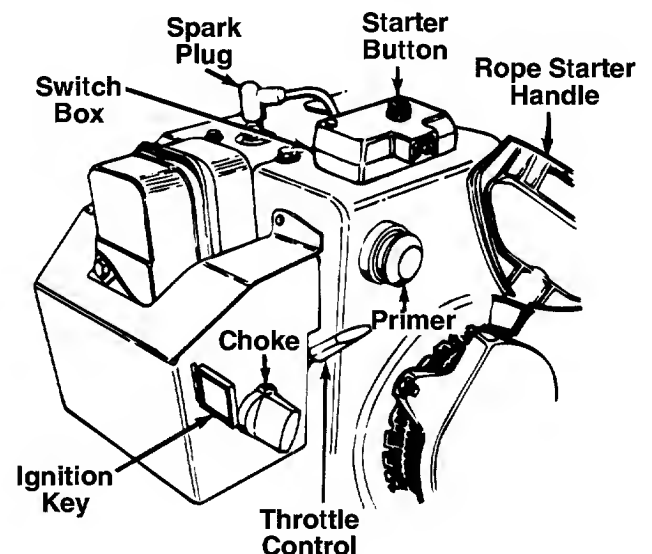

FIGURE 14.
## THROTTLE CONTROL (See figure 14)
## SAFETY IGNITION SWITCH (See figure 14)
- Remove the ignition key from the carburetor cover on the engine (do not turn). See figure 14.